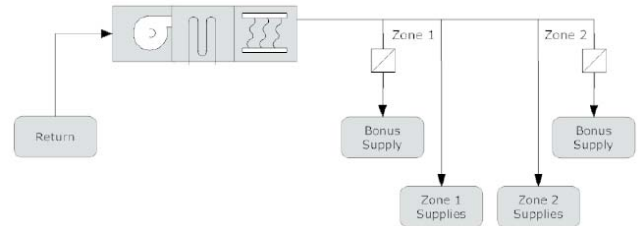

Figure 1
- The Slide 21 solution (Figure 1) shows a duct system that has an undamped supply to each zone, and a damped supply to each zone. There is no simple way to predict the behavior of this design.
*In general, how can practitioners be sure that the proposed (Figure 1) design will always deliver adequate performance for any operating condition?*